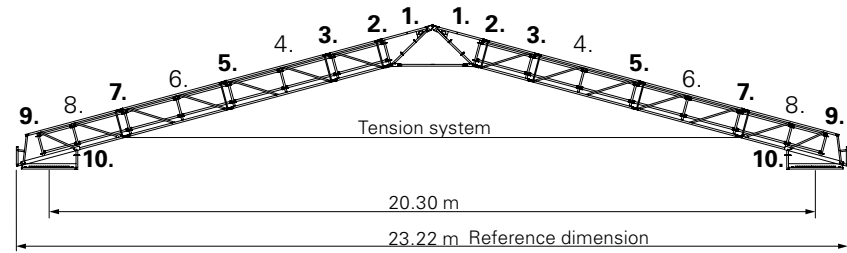

Fig. B1.04a
- with tension system (Fig. B1.04a),
Connect tension system to the eave element. (Fig. B1.04a)